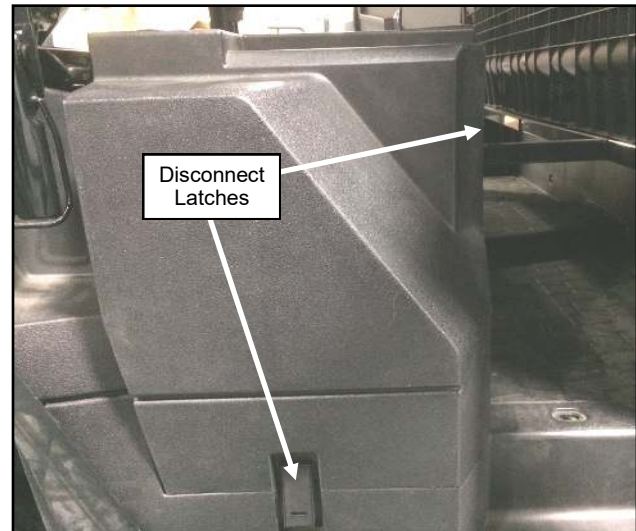

Fig. 1.5 Remove + Keep Battery Cover
- 1.5 Per figure 1.5, remove and keep battery cover.